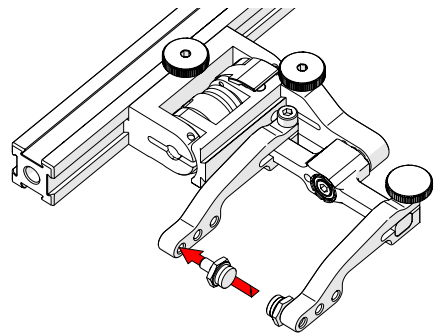

Fig. 38 - Place pivot buttons
4. Using the supplied 3/8 in wrench (Fig. 15), place the pivot buttons as required (Fig. 38).